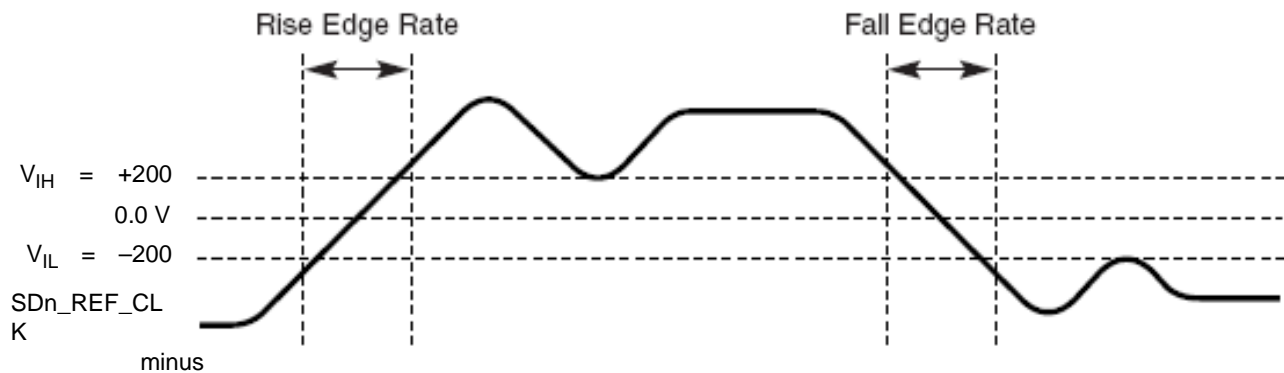

Figure 47. Differential Measurement Points for Rise and Fall Time
The differential waveform is constructed by subtracting the inverting signal (\overline{TXn} , for example) from the non-inverting signal (TXn , for example) within a differential pair. There is only one signal trace curve in a differential waveform. The voltage represented in the differential waveform is not referenced to ground. Refer to Figure 47 as an example for differential waveform.
3. Measured from -200 mV to +200 mV on the differential waveform (derived from SDn_REF_CLK minus $\overline{\text{SDn_REF_CLK}}$). The signal must be monotonic through the measurement region for rise and fall time. The 400 mV measurement window is centered on the differential zero crossing. See Figure 47.